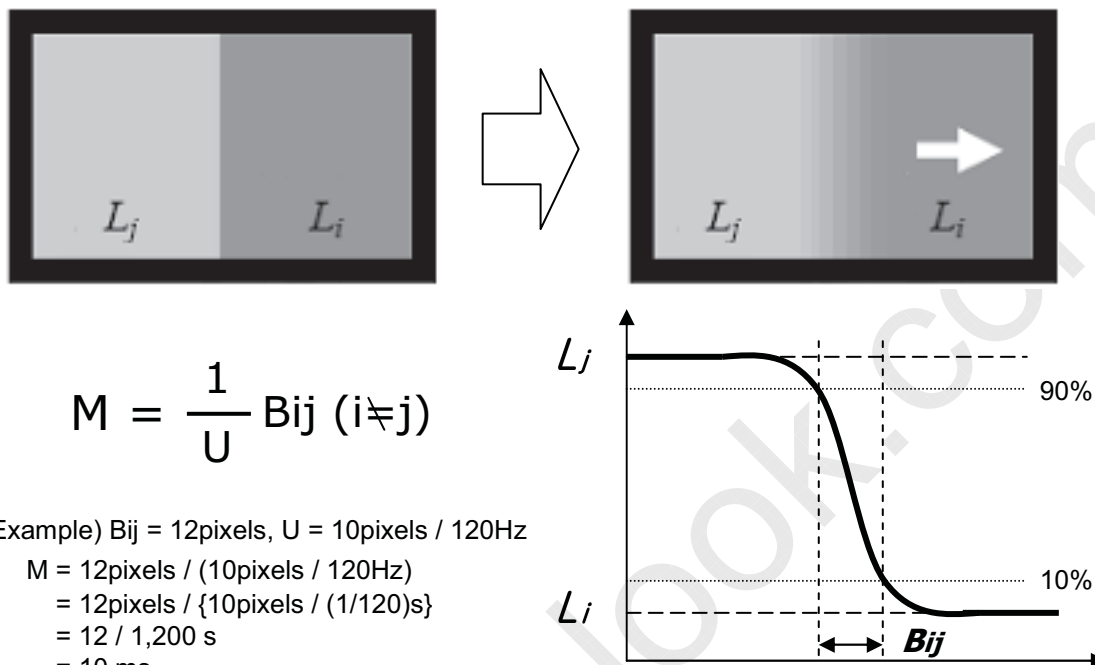

FIG. 4 MPRT
- MPRT is defined as 10% to 90% blur-edge width Bij(pixels) and scroll speed U(pixels/frame)at the moving picture. For more information, see FIG 4